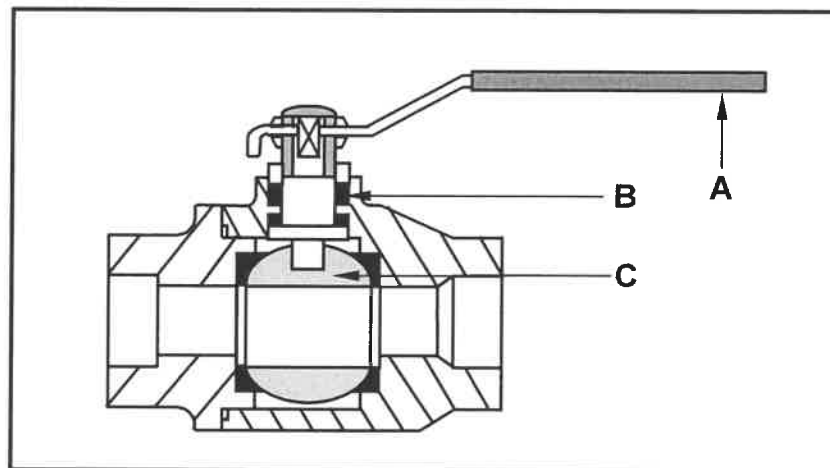

FIGURE 4.2
4.2 FIGURE 4.2 below is a picture of a device used in cold-water systems.